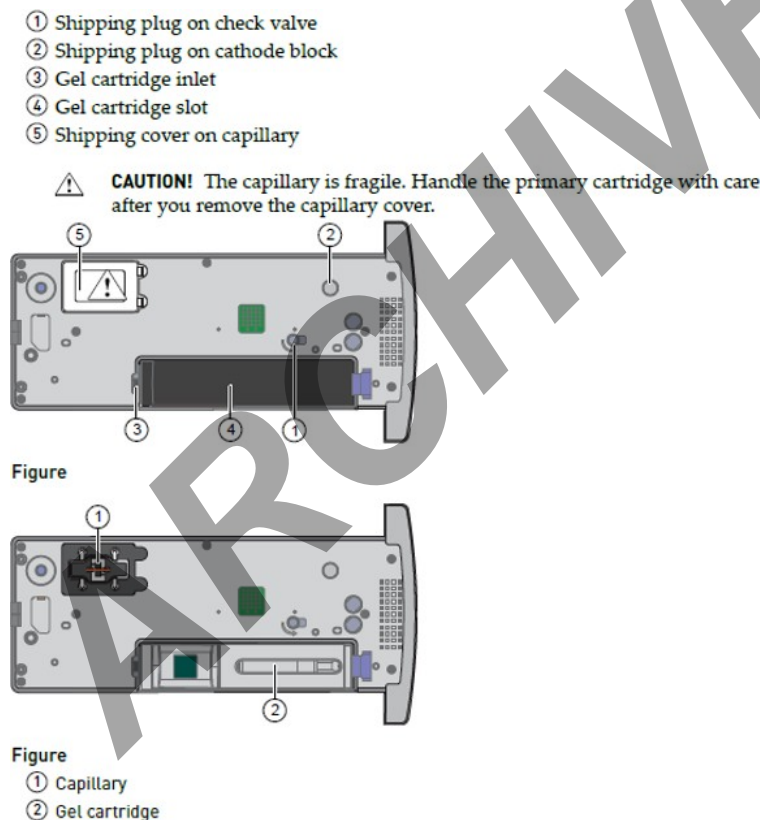

Figure 19. Primary and Gel Cartridge components
5. Figure 19 illustrates the parts and of components of the primary and gel cartridge.